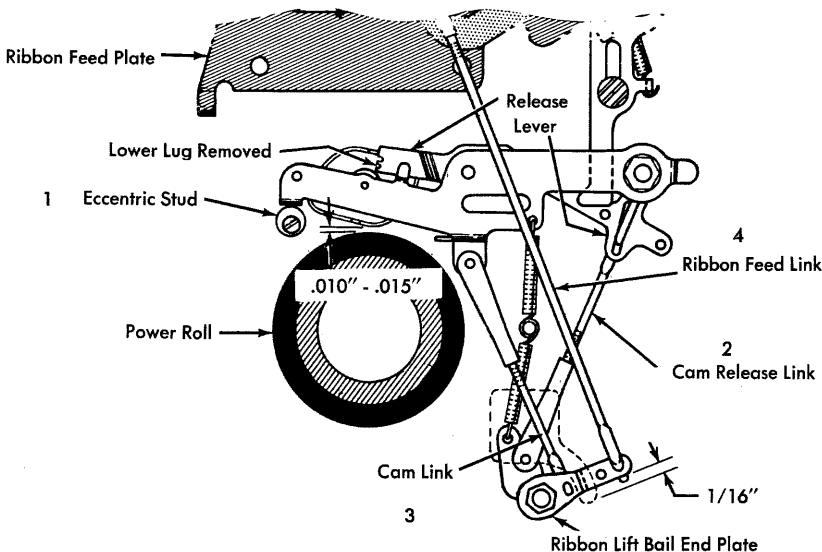

Figure 48. Ribbon Feed Adjustments
frame and may be reached through an opening in the power roll drive pulley (Figure 48).
2. Adjust the cam release link so that the ribbon cam is released when any type face is $\frac{3}{4}'' \pm \frac{1}{8}''$ from the platen (Figure 48). A variation in the tripping point between different type bars may be an indication that the vane on top of the ribbon lift bail is curved.
3. Adjust the link from the cam to the ribbon lift bail end plate so that the bail end plate is $\frac{1}{16}''$ above the bottom of the slot in the side frame (Figure 48). Make this adjustment by disconnecting the link and turning the clevis with a spring hook, reaching down through the side frame of the machine.